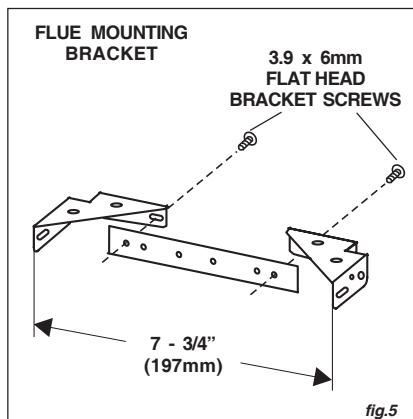

fig.5
1. Assemble the flue mounting bracket, adjusting outside width as shown. Fig.5
3. Secure the bracket assembly to the ceiling using (2) 4.8x38mm mounting screws and drywall anchors. Make sure the bracket is pushed into the corner, tight against the wall and centered over the hood.